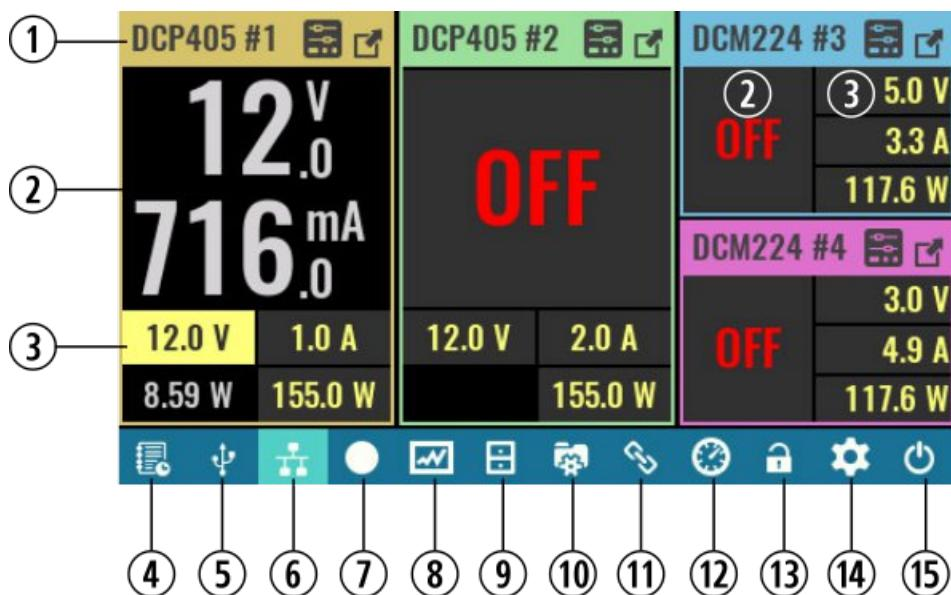

Fig. 8: Home page overview
Fig. 8 shows home page of the EEZ BB3 loaded with three different power module (see Fig. 9) using the default view (*numeric*) for presenting output states, and measured and set values. This module configuration (i.e. DCP405 and DCM220) will be used as an example throughout this manual.
- (12) **Display view selection:** toggle between five different presentations of output module parameters (default is numeric view – as shown on Fig. 8).
- (13) **Display lock/unlock:** when locked all local user interaction via touch-screen display will be disabled until the same option is selected again. Unlocking is not possible without entering valid system password (the system password is *not* defined by default).
- (14) **System settings:** use it to access system-wide protection settings, display, sound, trigger, digital I/O, date & time, Encoder and user switch, AUX temperature & fan control, Ethernet, Serial/USB and channels calibration
- (15) **Power / Reset control:** allows access to standby, “soft” reset (see also *RST), “hard” reset (equivalent to power up reset) and option to turn off display